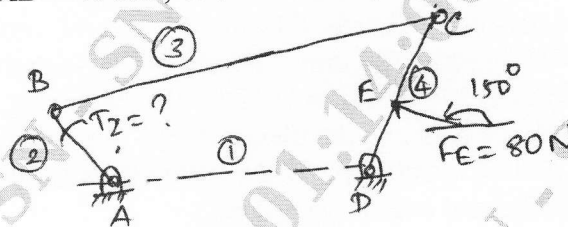

Fig.Q3(a)
- 3 a. A four bar link mechanism is acted upon by forces as shown in Fig.Q3(a). Determine the torque T_2 to be applied on link 2 to keep the mechanism in equilibrium.